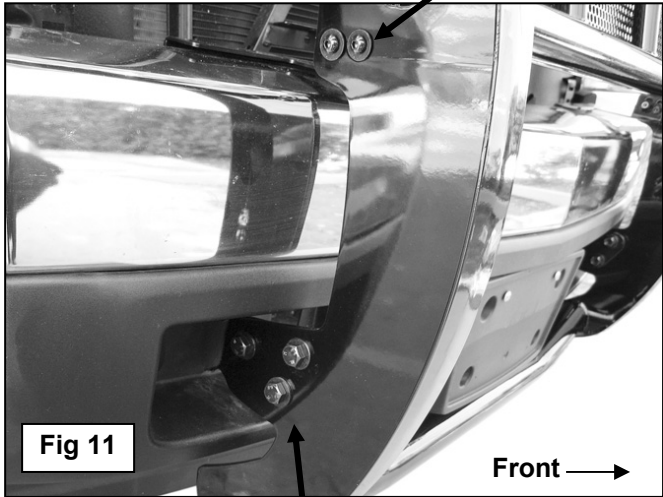

Fig 11
9. Line up the passenger side Top Bracket with the (2) holes in the upright on the Grille Guard. Bolt the Top Bracket to the upright with (2) 8mm Button Head Bolts, (4) 8mm Flat Washers, (2) 8mm Lock Washers and (2) 8mm Hex Nuts, **(Figure 11)**. Do not tighten hardware at this time. Repeat this Step for driver side Top Bracket installation.